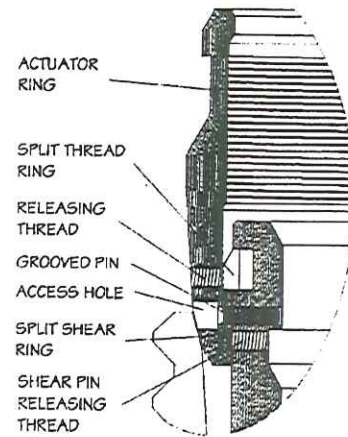

Figure 12. Releasing detail.
- c. Refer to **Figure 12**. Align the access holes in the actuator ring with the holes in the split shear ring. Tap in the two grooved pins that secure the actuator ring to the main body of the Lockdown Sleeve.